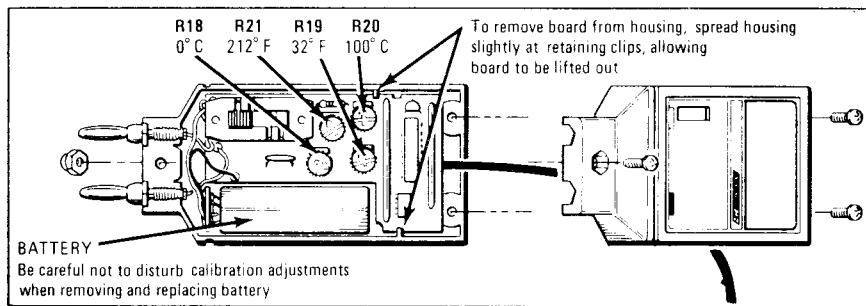

Fig. 3. Disassembly, battery location, and calibration adjustments location.
1. The TP-28 is shipped without a battery so that a fresh battery can be installed when you are ready to use the unit. Install a 9-volt transistor battery as shown in Fig. 3.
2. Low battery voltage in the TP-28 is indicated by a continuous high negative reading (approximately -100°C or F). Replace the battery as shown in Fig. 3.
Access to circuits in the main housing for battery replacement, calibration adjustments, or troubleshooting and repair is obtained by removing the three screws as shown in Fig. 3. To remove the circuit board from the housing (also illustrated in Fig. 3) spread the housing slightly at the retaining clips so that the board can be lifted out.
The TP-28 may be powered by any 9-volt transistor battery. When battery voltage gets too low for continued operation, the meter will continuously read a high negative value of about -100°C or F. The battery location is shown in Fig. 3; disassemble the main housing for access. Be careful not to accidentally move the calibration adjustments when removing or replacing the battery. Remove a discharged battery immediately to prevent leakage and corrosion. Remove the battery if the TP-28 is to be stored or not used for a long period.
1. Disassemble the main housing of the unit for access to the calibration adjustments (refer to Fig. 3 for location of adjustments).